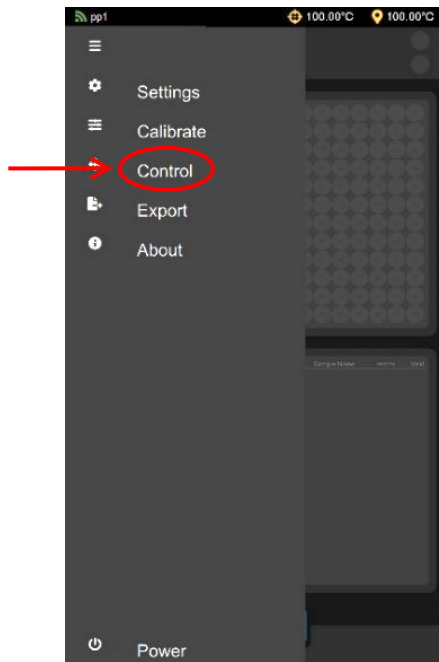

Figure 10: Control Option from Main Menu
- From the Main Menu screen, use a single touch to select **Control**. See Figure 10.
2. From the Main Menu screen, use a single touch to select **Control**. See Figure 10.